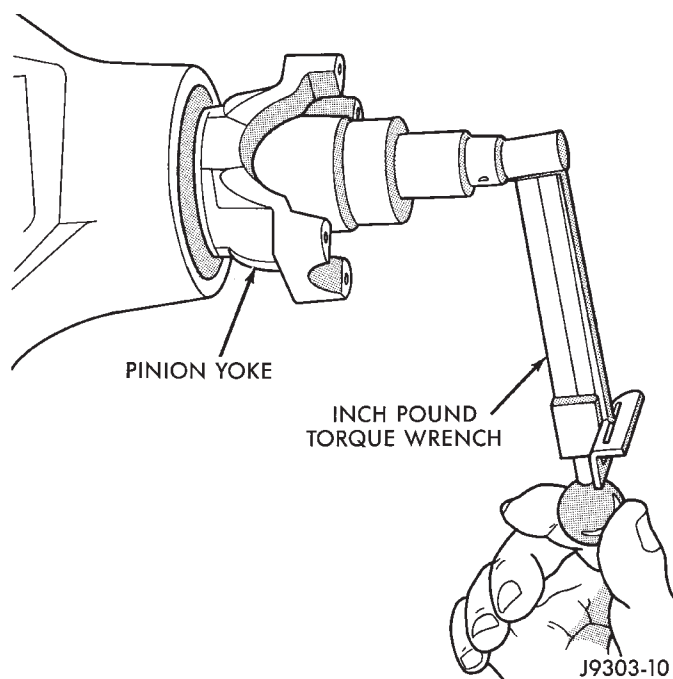

Fig. 18 Check Pinion Rotation Torque
(10) Rotate the pinion shaft using an (in. lbs.) torque wrench. Rotating torque should be equal to the reading recorded during removal, plus an additional 0.56 N·m (5 in. lbs.) (Fig. 18).